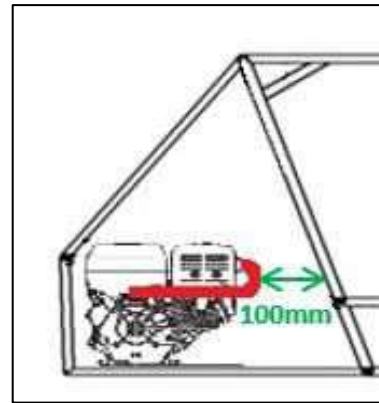

Figure B-2.2: Exhaust-Firewall Clearance
**Figure B-2.2 shows the Engine placed and exhaust facing towards the driver with a red colored pipe used for rerouting. A green arrow indicates the clearance required between the outer periphery of the exhaust rerouting pipe and RRH which should be > 100mm.**